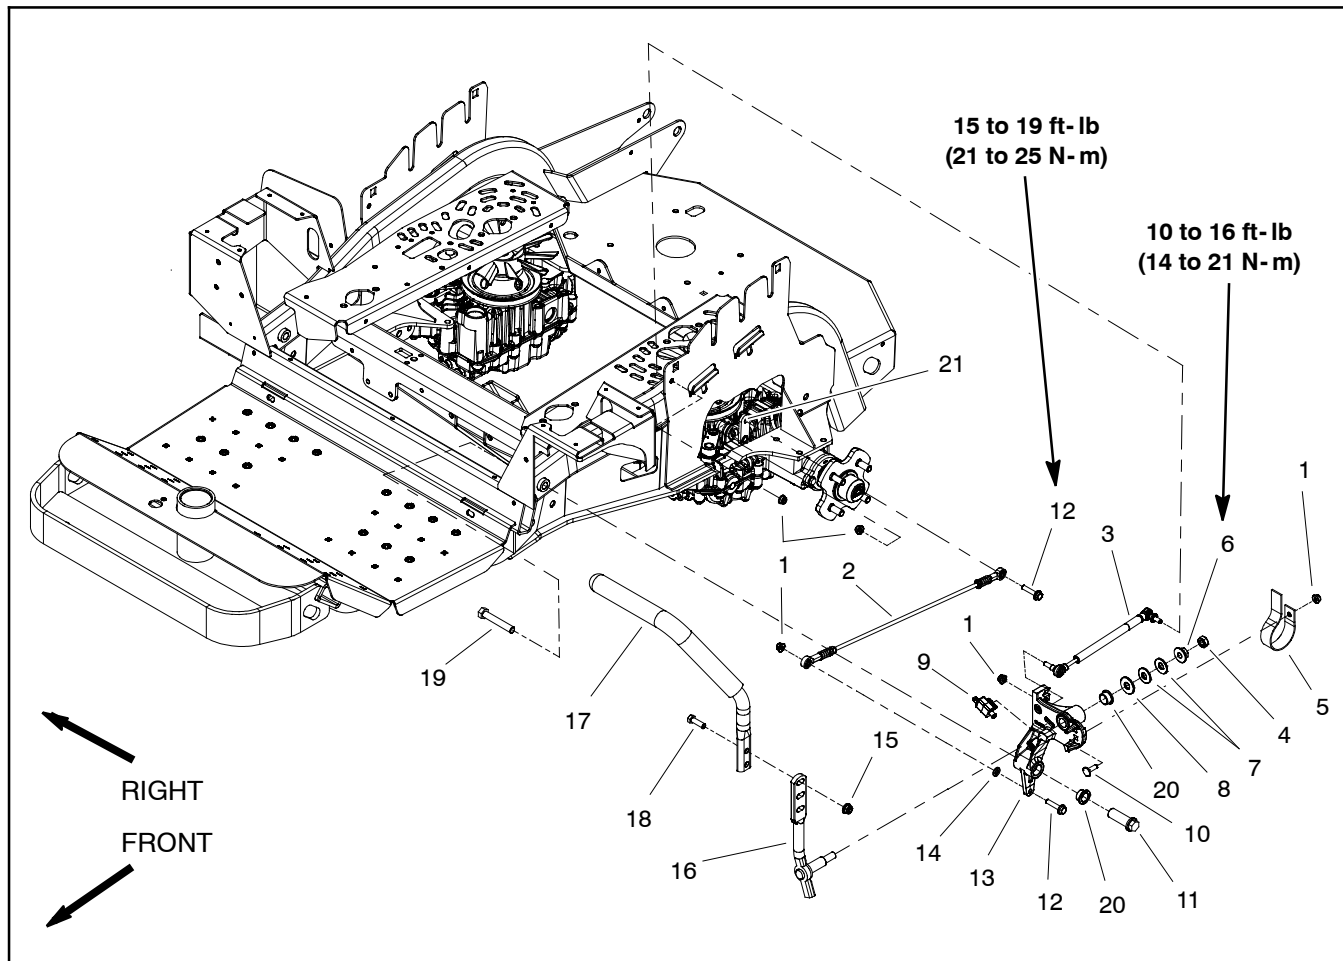
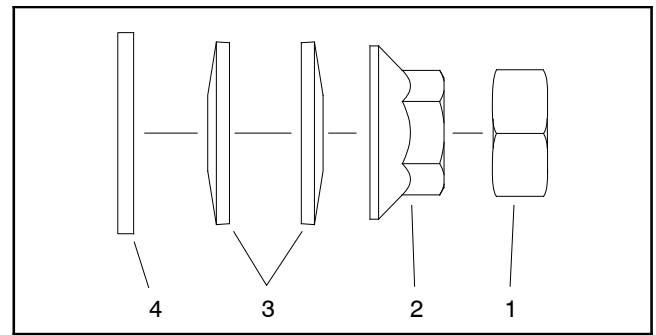
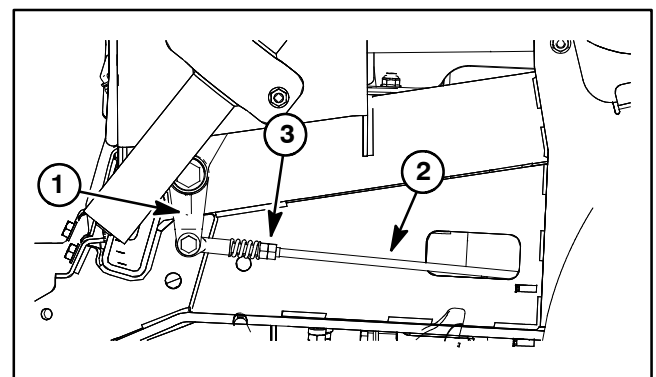

Figure 33
Figure 35
Figure 37
Disassembly (Fig. 33)
2. Disassemble transmission control components as needed using Figure 33 as a guide.
B. If motion control handle (item 16) is removed, note orientation of spring washers for assembly purposes (shown in Fig. 35).
Assembly (Fig. 33)
2. Assemble removed transmission control components using Figure 33 as a guide.
A. If rear pump linkage assembly (item 2 in Fig. 33) was removed, install pump linkage so that the end with jam nuts is orientated toward front of machine (shown in Fig. 37). When securing pump linkage to transmission traction lever (item 21 in Fig. 33), torque flange head screw (item 12 in Fig. 33) and flange nut (item 1 in Fig. 33) from **15 to 19 ft-lb (21 to 25 N-m)**.
B. If motion control handle (item 16 in Fig. 33) was removed from motion control (item 13), make sure that spring washers are installed with the concave sides facing each other as shown in Figure 35. Torque flange nut from **10 to 16 ft-lb (14 to 21 N-m)** to secure motion control handle. After flange nut is properly torqued, install and torque jam nut against flange nut from **38 to 52 ft-lb (52 to 70 N-m)**. Hold flange nut with wrench while torquing jam nut so that flange nut torque does not change.
C. If motion handles (item 17) were removed, align the ends of the handles during assembly.